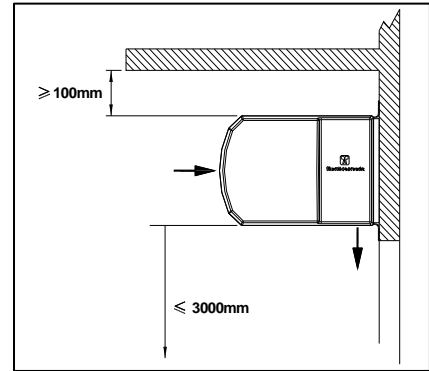

Fig 1
- at least 100mm clearance (air gap) above electric/water heated air curtains, see Fig 1